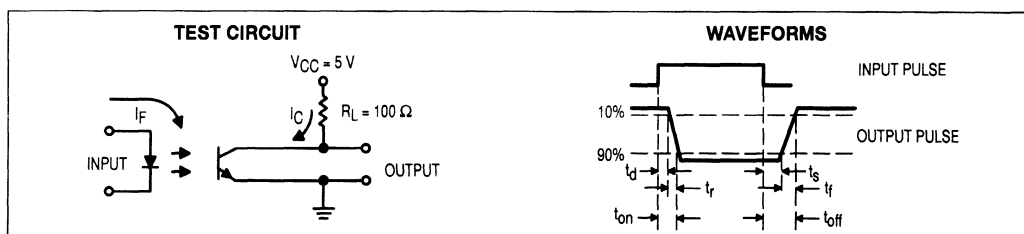

Figure 11. Switching Time Test Circuit and Waveforms
3. For test circuit setup and waveforms, refer to Figure 11.